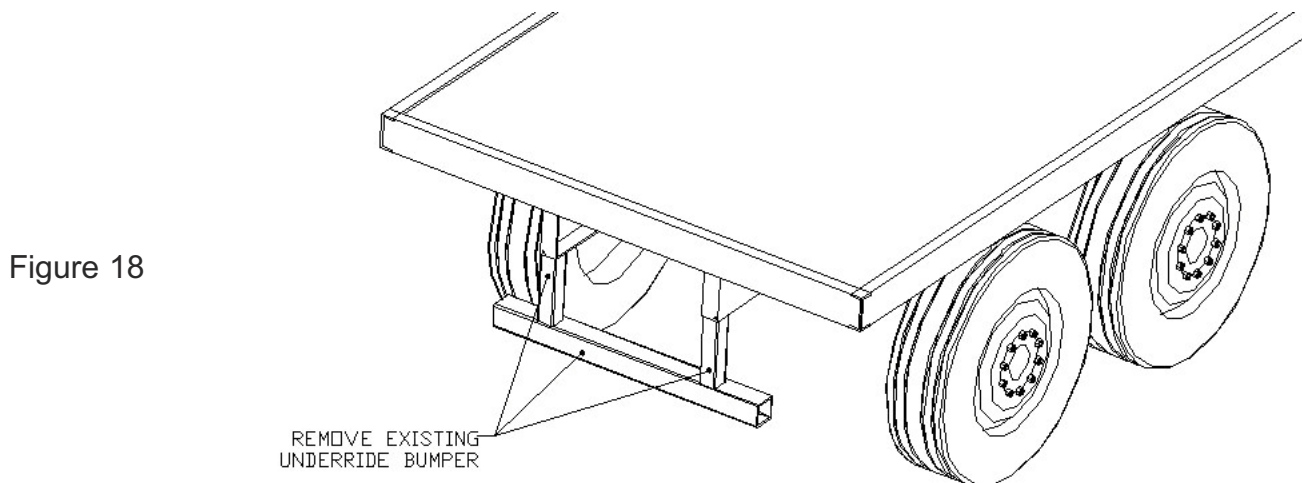

Figure 18
- 2.) Completely remove existing underride bumper from rear of trailer. Any lighting, bracketry, etc., that is present on the existing underride must also be removed and relocated. See figure 18 on next page.